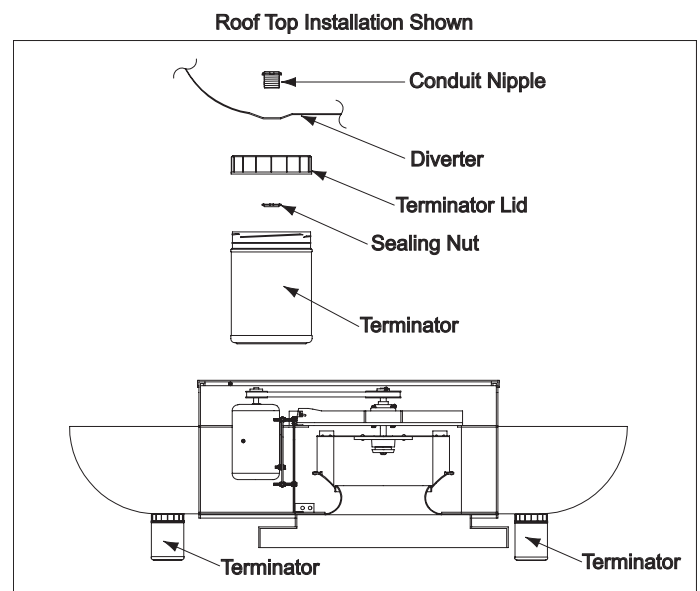

Figure 4
1. Attach hardware to drain hole in the diverter. See *Figure 4*.